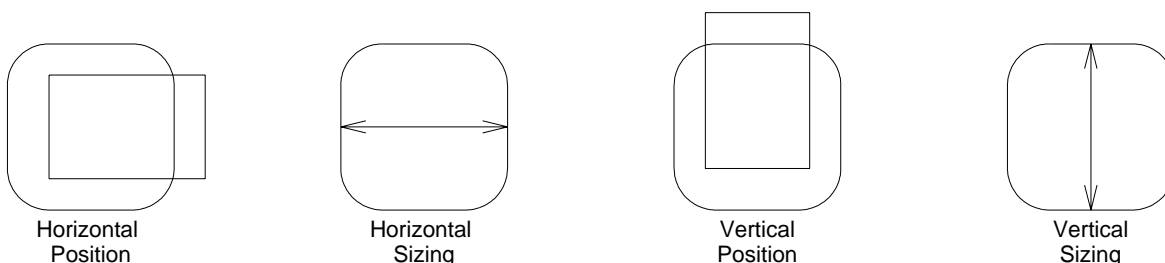

Figure 1, Monitor Adjustment Symbols
52. Using the **Select "+"** or **"-"** buttons on the front of the monitor, highlight **Horizontal Sizing** symbol, as shown in figure 1 below.
54. Using the **Select "+"** or **"-"** buttons on the front of the monitor, highlight **Vertical Position** symbol, as shown in figure 1 below.
56. Using the **Select "+"** or **"-"** buttons on the front of the monitor, highlight **Vertical Sizing** symbol, as shown in figure 1 below.